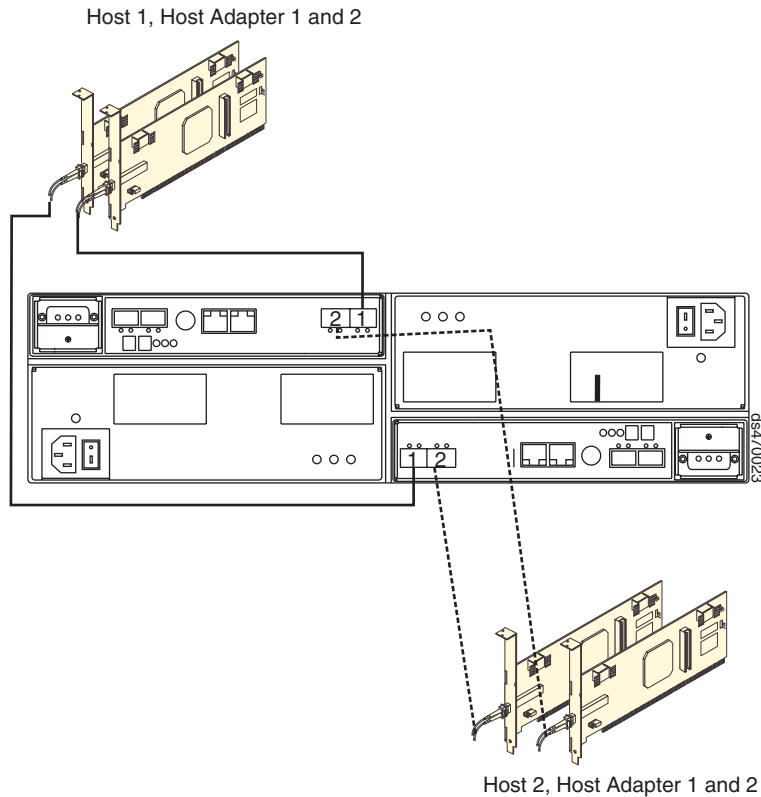

Figure 56. Cabling diagram for two redundant host connections
- Repeat steps 1 on page 72 and 2 on page 72 for each additional redundant host connection. You can create a maximum of two redundant host connections for the DS4200 Express Storage Subsystem, as shown in Figure 56 on page 74.
**Note:** Figure 56 on page 74 shows a connection to a fibre channel host bus adapter in the DS4200 Express Storage Subsystem. You can also connect to fibre channel switch ports (not shown).